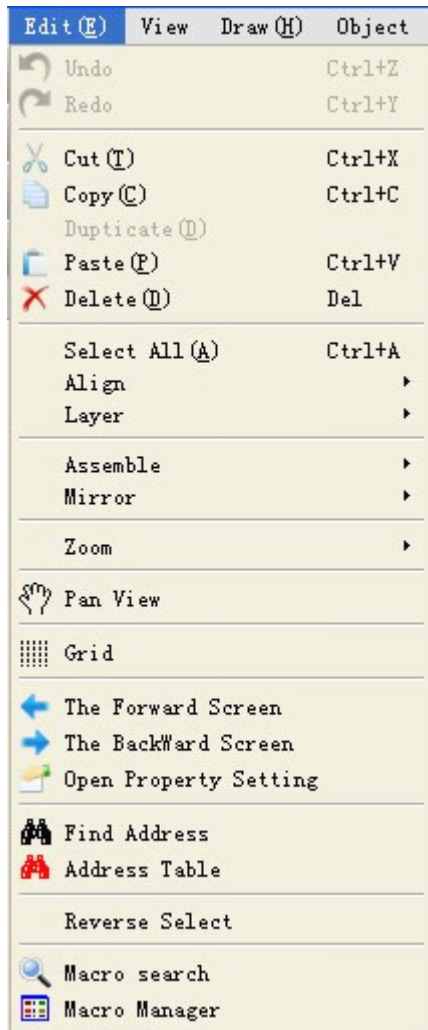

Figure 2-30: “Edit” menu
“Edit” menu consists of commands used to edit screen, text and drawing as well as some auxiliary commands, including Undo (U), Redo (R), Cut (T), Copy (C), Duplicate (D), Paste (V), Delete (D), Select All (A), Align, Layer, Rotary, Assemble, Mirror, Zoom, Pan View, Grid, Grid Width, Border Scale, The Forward Screen, The Backward Screen, Open Screen Property, Information Output Window, Project Manager, Find Address, and Address Table. Grey commands are invalid under the current environment, and can be used only when the object to be edited is chosen. Some commands in Edit menu are group commands, which are marked with a small triangle on the right side of the line. In addition, each command has a shortcut key. This menu is a drop-down menu, as shown in Figure 2-30.